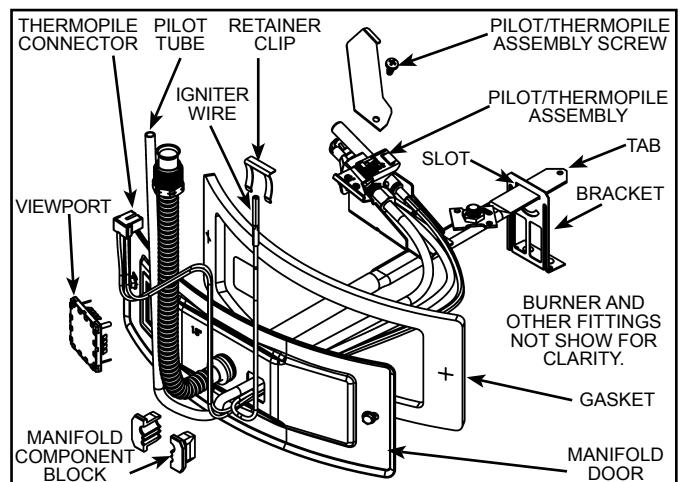
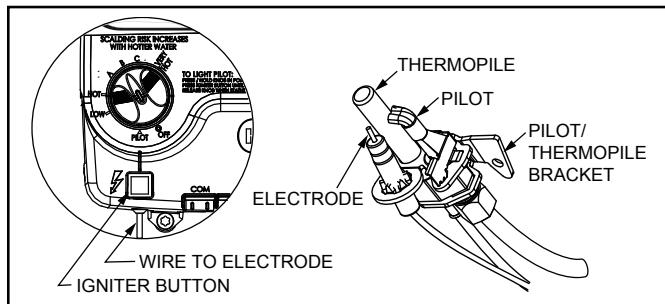

Figure 36
Figure 39
3. Remove the screw securing the pilot/thermopile assembly to the pilot bracket and keep for reuse later (see Figure 36 & Figure 39).
4. Lift the retainer clip straight up from the back of the manifold component block (using a flat-blade screwdriver), then remove the manifold component block from the manifold door (see Figure 36).
7. Route the new pilot tube, igniter wire and thermopile wires through the opening in the manifold door (see Figure 36).
- Check the door gasket for damage or imbedded debris prior to installation (see Figure 36).
- Inspect the viewport for damage and replace as required (see Figure 36).
- Insert the new manifold/burner assembly into the burner compartment, making sure that the tab of the manifold tube engages the slot of the bracket inside the combustion chamber (see Figure 36).
- Inspect the door gasket and make sure there is no fiberglass insulation between the gasket and the combustion chamber (see Figure 36).
The piezoelectric igniter system consists of the igniter button, electrode, and wire. The pilot is ignited by an electric spark generated when the igniter button is pressed (see Figure 39).